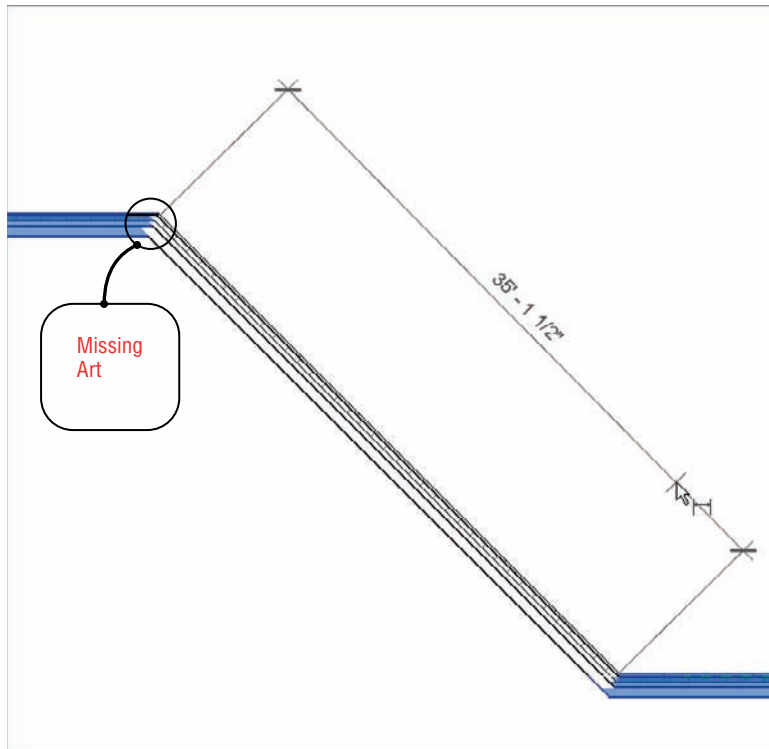

FIGURE 5.12 Dragging the witness line's grip
2. On the left side of the dimension, pick and hold the grip in the middle of the dimension line, as shown in Figure 5.12.
3. Drag the blue grip to the outside face of the brick. You will know you are in the right spot because you will see a small dot appear, as shown in the magnified segment of Figure 5.12.